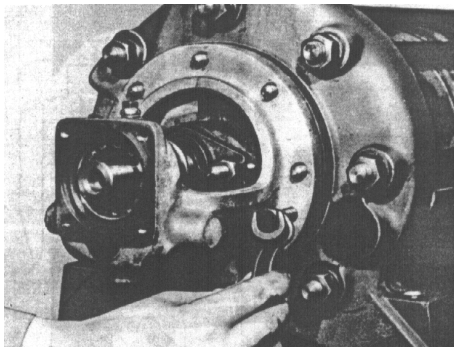

Fig. 5
- Tighten the screws extracted from the Bearing Block uniformly, and release it. (See fig. 5)